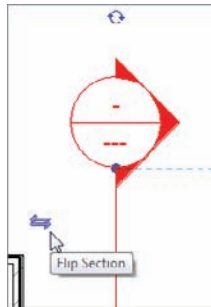

FIGURE 3.34 After you select the section, you will see the flip grip.
5. Now that you placed the section, it looks like you need to flip it to face the wall you intended to modify. You will see a few blue icons appear. You are interested in the icon that looks like two arrows. This is a *flip grip*. It is the same thing you saw in the doors and windows (see Figure 3.34).